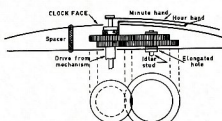
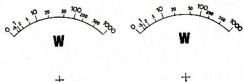

FIG.1. MODIFICATION TO CLOCK MOVEMENT.
Fig. 7—Two scales for 50 ohm systems suitable for cutting out and using on the unit shown in Fig. 6.
M. B. Allison, G3TGD, has designed a wattmeter using the above principles, where the low resistance in the current transformer secondary circuit is split into two equal parts. The centre connection is taken to the voltage sampling network so that sum and difference voltages are available at the ends of the transformer secondary winding (see Fig. 1).
Fig. 1—Circuit of the basic Frequency-Independent Directional Wattmeter, with four ranges corresponding to full scale deflections of 0.5, 5, 50 and 500 watts in 50 ohm lines, when the value of R2 (including VR1, if fitted) should be 220 ohms. For 75 ohm systems R2 equals 150 ohms, and the calibration is different. The co-axial cable acts as an electrostatic screen between its centre conductor and the secondary winding of the toroidal transformer; the cable length is unimportant.
With two meters (or an ex-Government cross-over meter) this circuit can be used as a versatile calibrated directional wattmeter. The unit also enables precise calculations of s.w.r. to be made. The prototype was accurate as a power meter from 100 Kc. to over 70 Mc., within a tolerance of 10%. With a 50 μ A. meter the maximum sensitivity is better than five milliwatts; with the multiplier resistors specified in Fig. 1, full scale deflection corresponds to powers of 0.5, 5, 50 and 500 watts. Calibration is non-linear, because the meter samples voltage, and power is proportional to voltage squared. Calibration curves for 75 ohm systems are given in Fig. 2.
It is simple to add a reasonably accurate wide-range logarithmic network to the power meter of Fig. 1. The basis of its operation is that the voltage across a forward-biased p-n junction diode is proportional to the logarithm of the current passing through it. See Fig. 4. The logarithmic properties of a silicon junction diode are good over at least eight decades of current (from 5 nA. to 1 A.), which implies that a single meter scale might be calibrated over sixteen decades of power: from 1 picro-watt to 10 kW! In practice a range of 1 to 1,000 watts is more useful, so the logarithmic network must be modified (see Fig. 5). By introducing an insensitive meter the lower decades are condensed, but a resistor in series with the diode is necessary to restore a logarithmic form to the scale.
An experimental logarithmic directional wattmeter is shown in Fig. 6. Fig. 7 shows suitable calibration scales for this instrument, suitable for cutting out and sticking to 1-21/32 inch Japanese meters. The circuit combines the sampling networks of Fig. 1 and two logarithmic adapters as in Fig. 5(b).
Fig. 5—(a) Basic logarithmic multiplier converter. The 50 Ω meter and its 10 kilohm multiplier resistor form a high impedance voltmeter. With the values given, the meter sensitivity is approximately logarithmic for power levels from 10 mW, to 1 kW. (b) Circuit used to reduce the dynamic range of the logarithmic network. A calibration scale is given in Fig. 7.